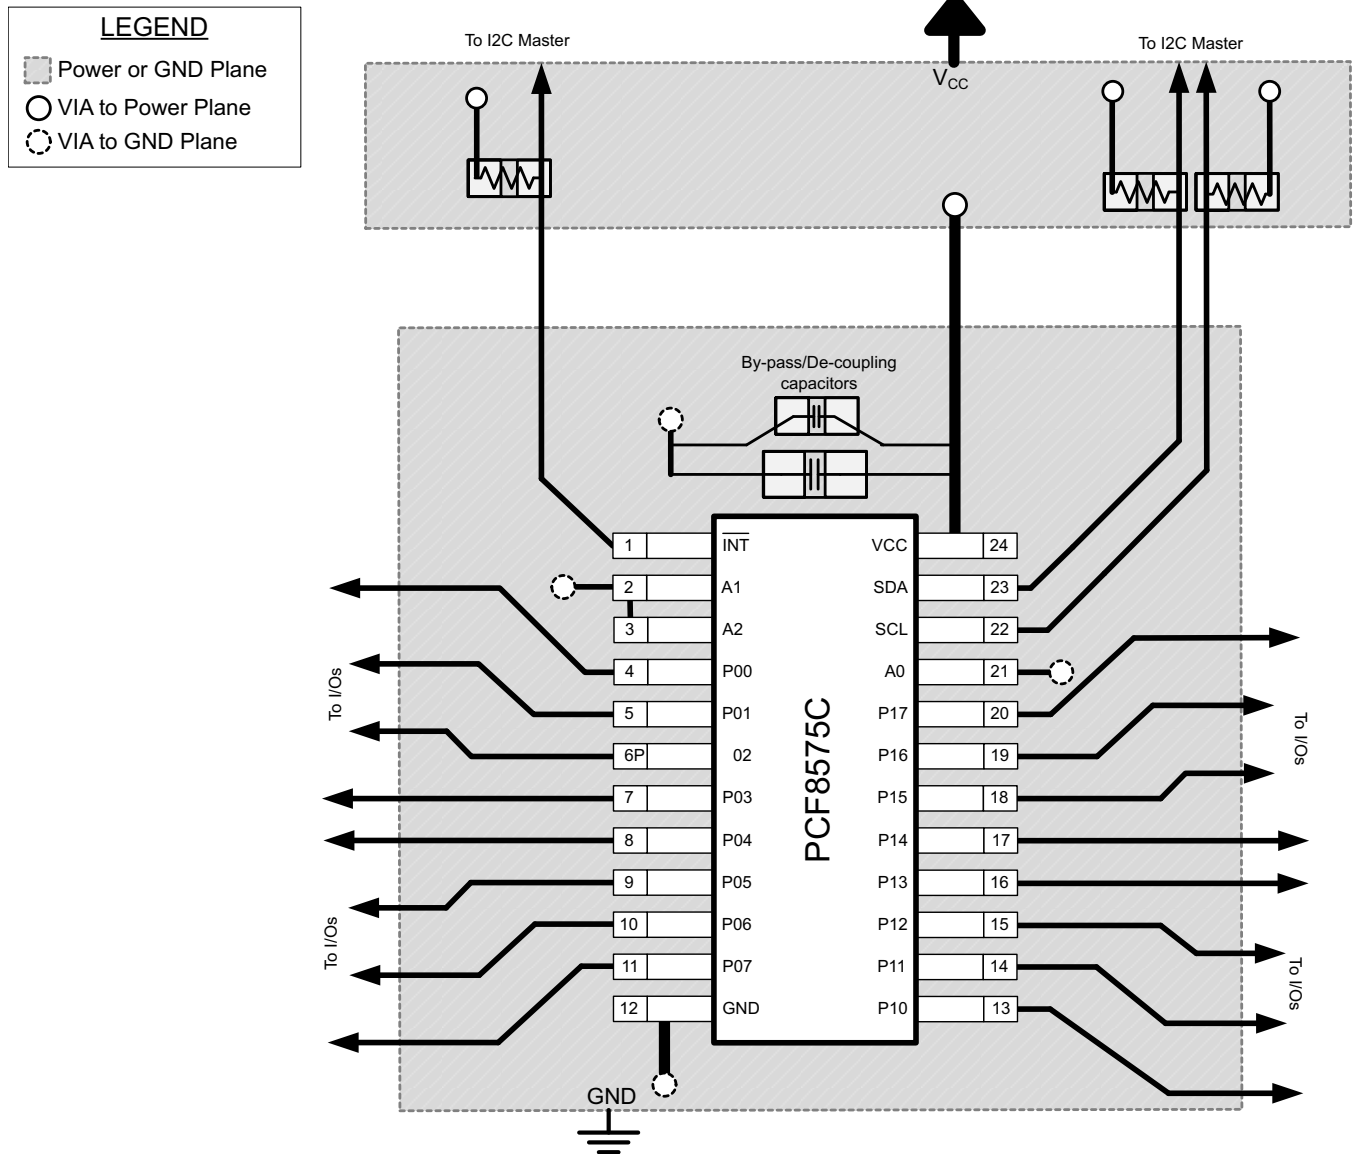

Figure 24. Layout Example for PCF8575C
In all PCB layouts, it is a best practice to avoid right angles in signal traces, to fan out signal traces away from each other upon leaving the vicinity of an integrated circuit (IC), and to use thicker trace widths to carry higher amounts of current that commonly pass through power and ground traces. By-pass and de-coupling capacitors are commonly used to control the voltage on the VCC pin, using a larger capacitor to provide additional power in the event of a short power supply glitch and a smaller capacitor to filter out high-frequency ripple. These capacitors should be placed as close to the PCF8575C as possible. These best practices are shown in Figure 24.
For the layout example provided in Figure 24, it would be possible to fabricate a PCB with only 2 layers by using the top layer for signal routing and the bottom layer as a split plane for power (VCC) and ground (GND). However, a 4 layer board is preferable for boards with higher density signal routing. On a 4 layer PCB, it is common to route signals on the top and bottom layer, dedicate one internal layer to a ground plane, and dedicate the other internal layer to a power plane. In a board layout using planes or split planes for power and ground, vias are placed directly next to the surface mount component pad which needs to attach to VCC or GND and the via is connected electrically to the internal layer or the other side of the board. Vias are also used when a signal trace needs to be routed to the opposite side of the board, but this technique is not demonstrated in Figure 24.